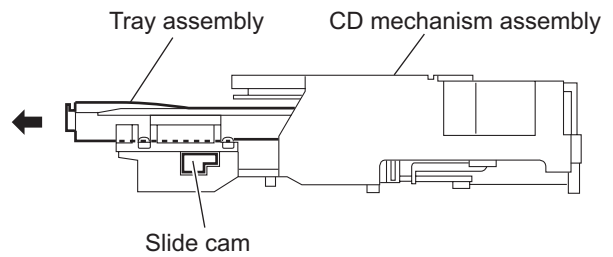

Fig.1
3.2.1 Removing the tray assembly (See Figs.1 to 3)
- (1) From the right side of the CD mechanism assembly, push the slide cam and pull the tray assembly out of the CD mechanism assembly in the direction of the arrow. (See Fig.1)